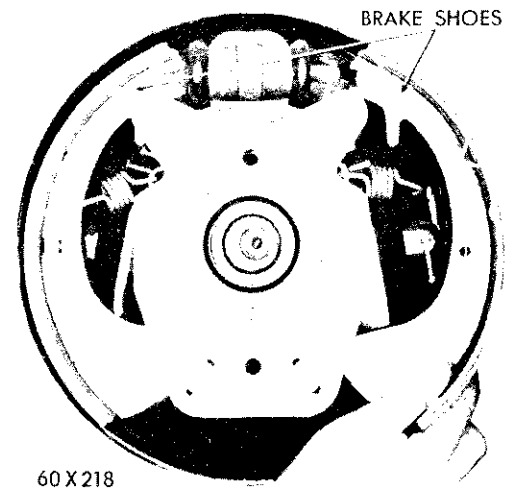

Fig. 10—Removing or Installing Brake Shoe (Rear)
(5) Slide the shoes from between the support plates (Fig. 10).
(1) Slide the brake shoes into position between the support plates. Be sure the ends of the cylinder push rods engage the toe end of the shoes properly (Fig. 10).
(2) Insert the brake shoe return springs in the link of the support plate (Fig. 10).